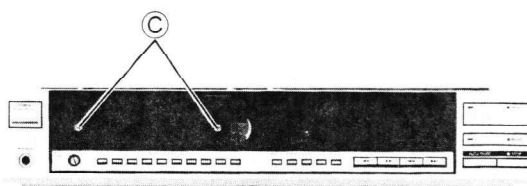

Figure 6
5. Remove two screws (C) ( $3\phi \times 6\text{mm}$ ) securing plate.
6. Close disc holder. (Figure 6)